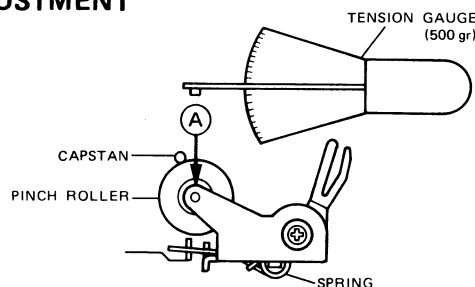

Figure 5-1
- 2) Push the pinch roller, at the point (A) shown in Figure 5-1, by using a tension gauge (500 gr.) so that it will come off the capstan. Then, slowly release the tension until the pinch roller hits the capstan again (i.e., the pinch roller is about to rotate again). Check, then, the tension gauge is reading 270 gr. to 330 gr.